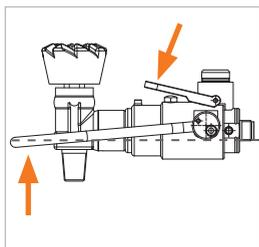

Figure 9
- ▶ Press and hold down the locking device (Pos. 8) and then fold the actuation unit (Pos. 1) upwards (*Figure 9*). The connection to the cylinder valve is released and the connector can be pulled straight back.